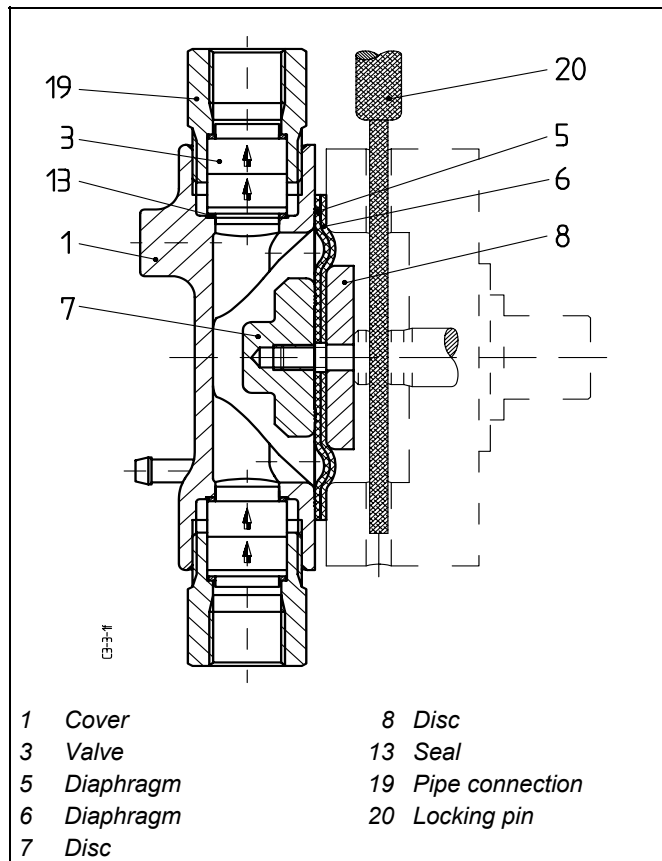
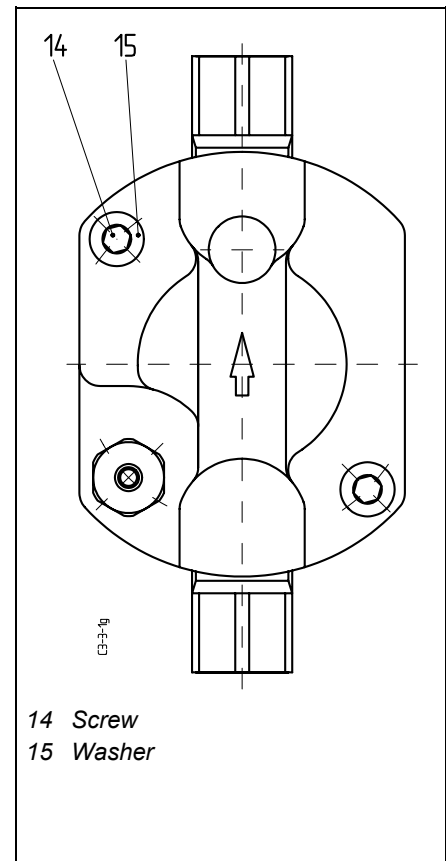

Fig. 3.6: Sectional View
Fig. 3.7: View
The replacement of the diaphragm in gear models G1 and A1 is shown in *Fig. 3.6* and *Fig. 3.7*.
- Undo the screws (14) uniformly and remove the cover (1).
- To prevent movement of the push rod insert a screwdriver or a locking pin (20) through the bores in the yoke and push rod (see Fig. 3.6).
- Dismantle the double diaphragm by unscrewing the disc (7).